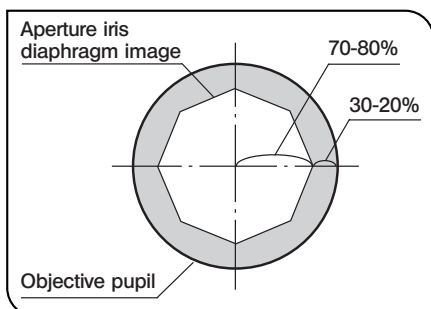

Fig. 26
Aperture Iris Diaphragm (Figs. 26 & 27)
- Since the contrast of microscope specimens is ordinarily low, setting the condenser aperture iris diaphragm to between 70% and 80% of the N.A. of the objective in use is usually recommended. If necessary, adjust the ratio by removing the eyepiece and looking into the eyepiece sleeve while adjusting the aperture iris diaphragm ring ① until the image shown in Fig. 26 is seen.